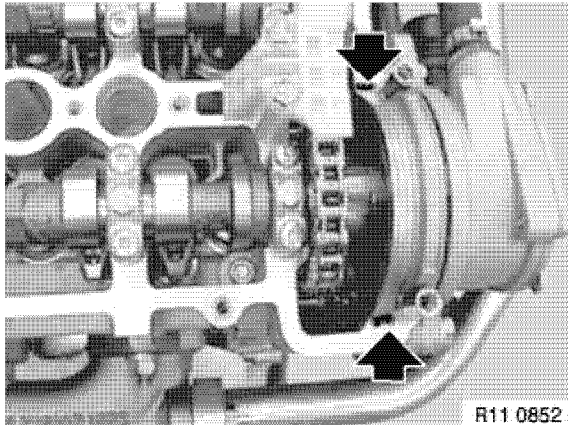

Figure 5-5
2. Apply a thin uniform bead of Three Bond® 1207F (Yanmar part No. 977770-1207F) approximately 2 mm (0.079 in.) high and 2 mm (0.079 in.) wide at the transition to each end of the half-moon section (**Figure 5-5**).